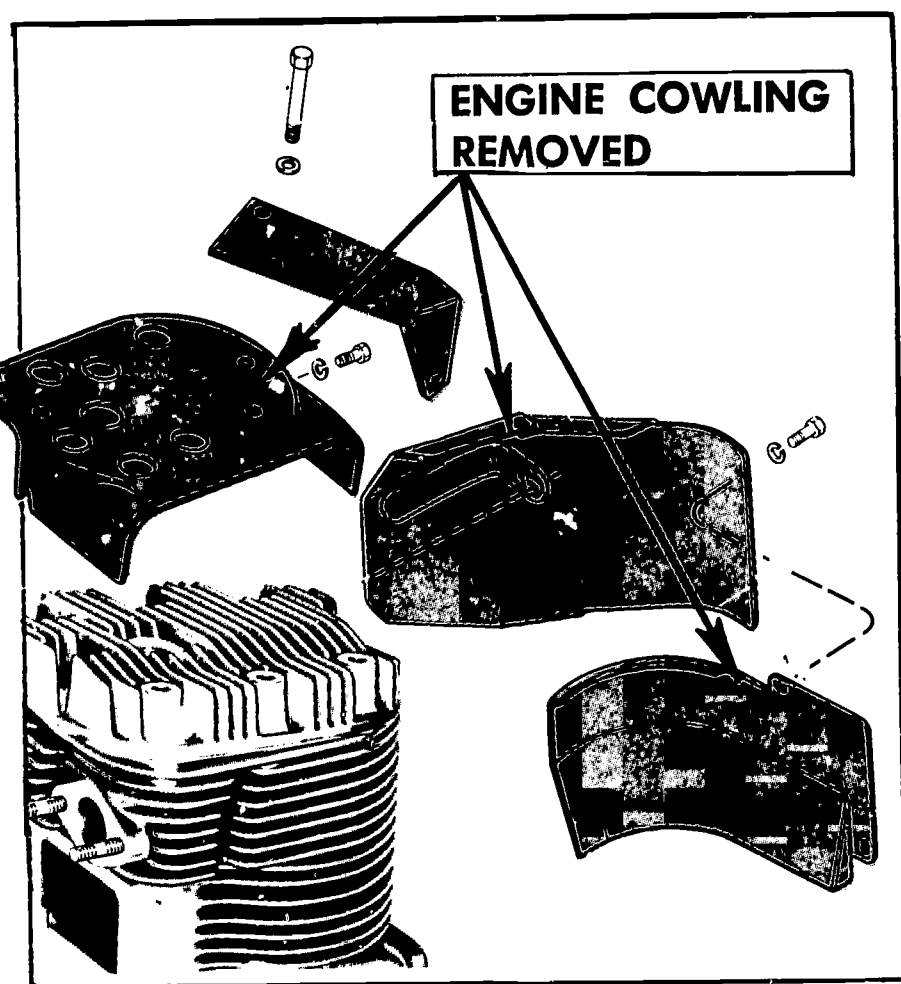

FIGURE 189. Remove cowling from around the cylinder and cylinder head.
4. Remove the cowling if necessary to get to the cylinder head (Figure 189).